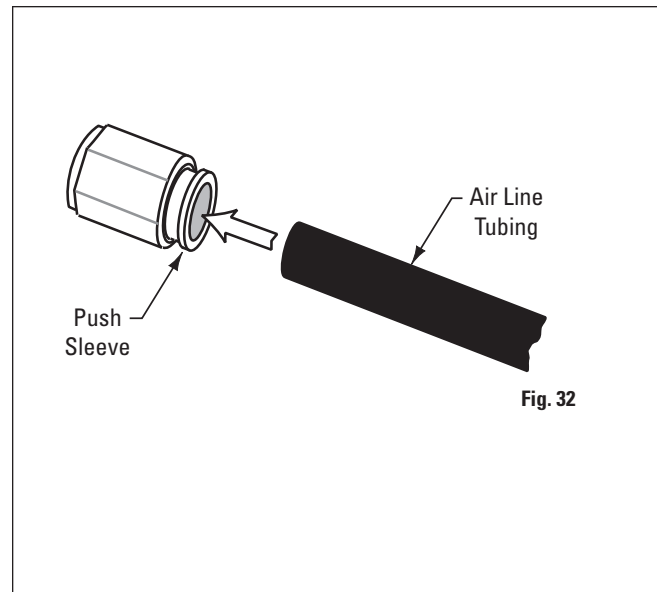

**Fig. 30**
- A. Attach retainer brackets for the rear recoil hose with 3/8"-16NC x 3/4" Lg. hex cap screw, flat washer, lock washer and nut, Fig. 30.
- B. Insert retainer cable through coils of recoil hose, Fig. 30. Run a 1/4"-20NC hex nut down onto each end of retainer cable. Insert each end of cable into retainer brackets. Secure each cable end with another 1/4"-20NC hex nut. Tighten jam nuts, Fig. 30.
- A. Insert retainer cable through coils of recoil hose, Fig. 30. Connect one end of recoil hose to coupling welded on rolling jack, Fig. 33 and 34.